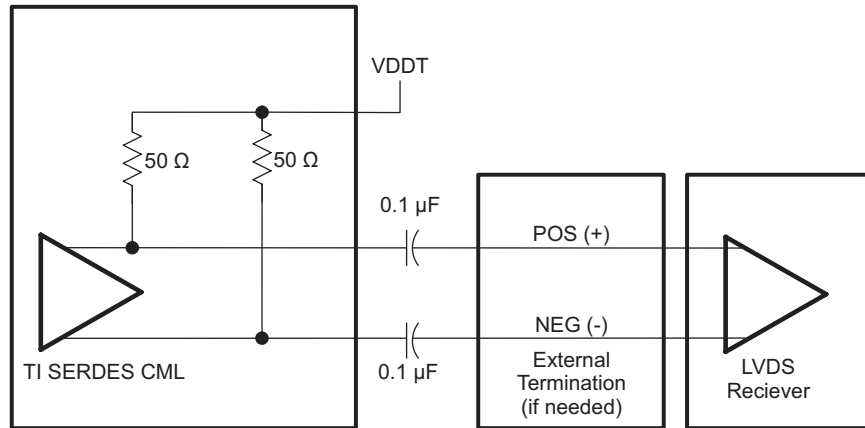

Figure 2. CML to LVDS Connection Basic Diagram
- The generic connection diagram is shown in Figure 2.